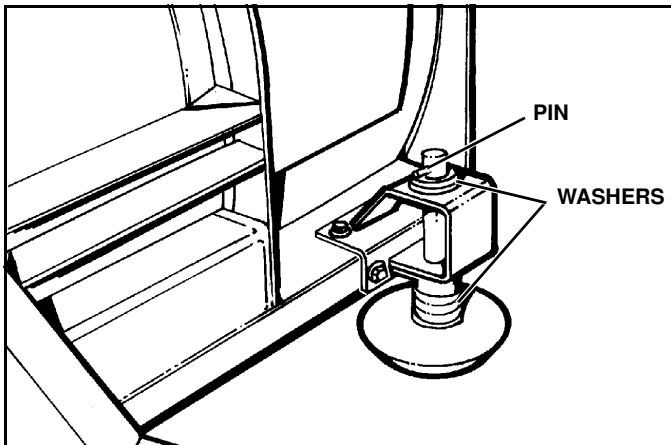

Figure 3-1
5. Adjust shoe assemblies by removing Shoe Mounting Pin and adding or subtracting washers on the top or bottom of the shoe mounting bracket. (See Figure 3-1)